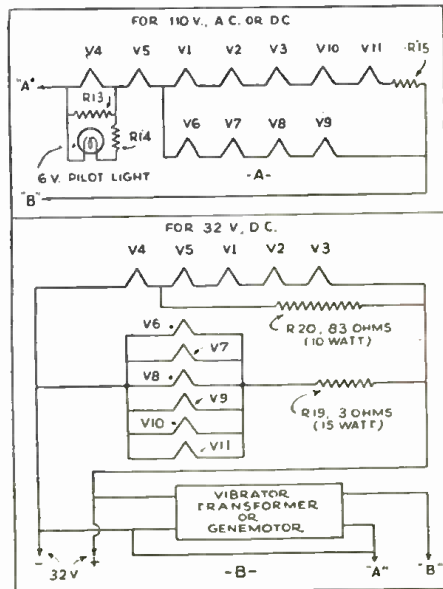

Fig. 2
V. tap to the grid connection of the tube, as shown in Fig. 2.